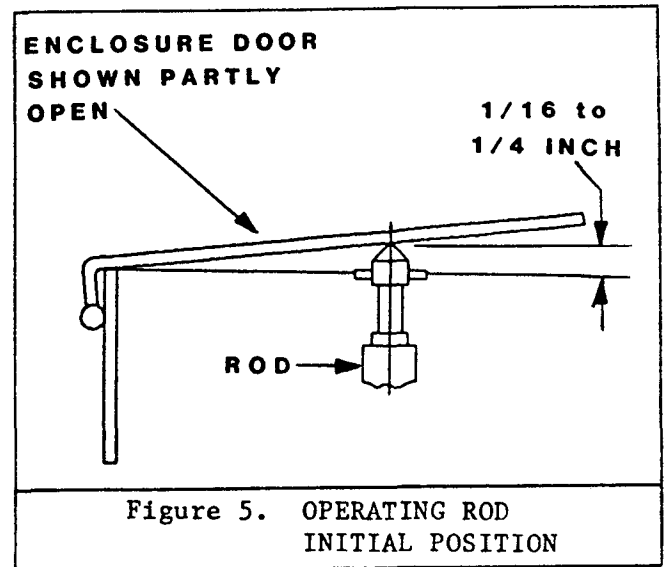

Figure 5. OPERATING ROD INITIAL POSITION
6. Turn remaining portion of operating rod into operating mechanism. Rod tip must extend a small distance beyond door opening. See Figure 5.